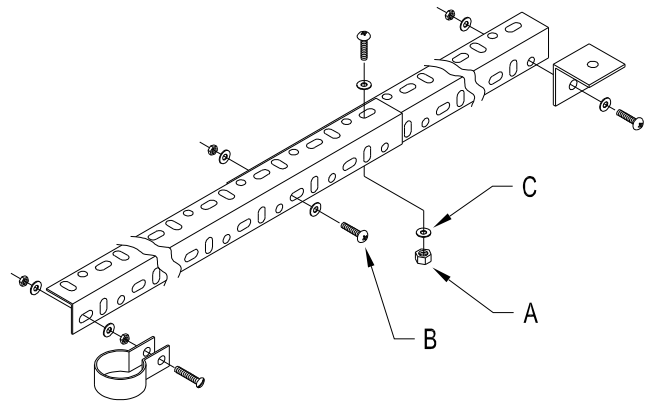

Figure 1
3. Wrap the Ring Hanger around the vertical pipe (that is attached to the structural ceiling) and attach one end of a Slotted Angle to the outside of the Ring Hanger. See Figure 1. Do not tighten at this time.